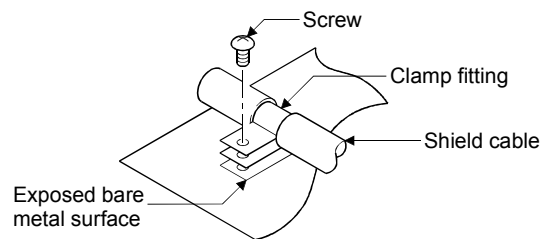

Figure 14.2 Shield grounding (Correct example)
- 2) Ground the exposed shield section to spacious area on the control panel. A clamp can be used as shown in Figure 14.2.